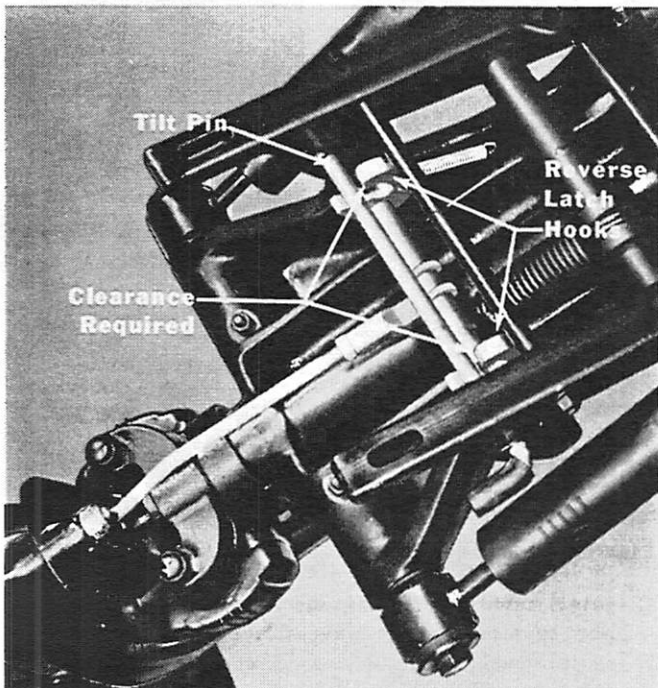

Figure 6. Latch Hooks Position in Forward Gear
6. Place engine in forward gear and check reverse latch. Be certain that reverse latch hooks clear tilt pin when tilting. (Figure 6)